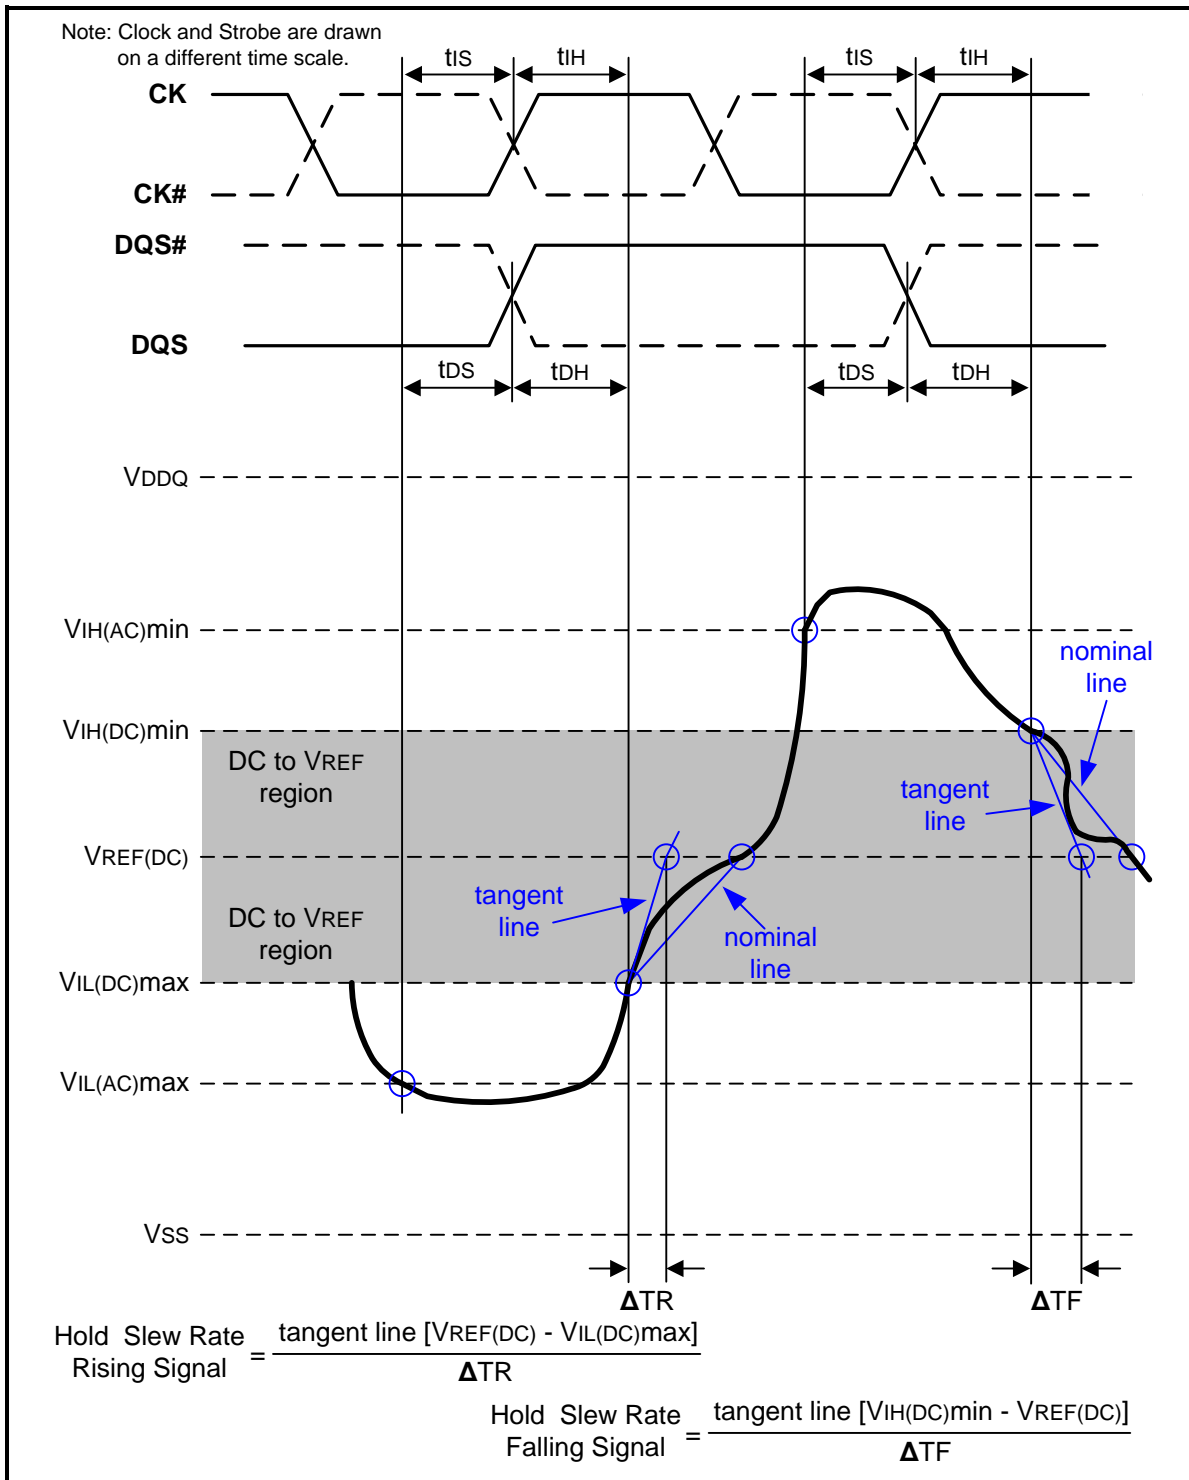

Figure 110 – Illustration of tangent line for hold time tDH (for DQ with respect to strobe) and tIH (for ADD/CMD with respect to clock)
Hold ( $t_{IH}$ ) nominal slew rate for a rising signal is defined as the slew rate between the last crossing of  $V_{IL}(\text{DC})_{\text{max}}$  and the first crossing of  $V_{REF}(\text{DC})$ . Hold ( $t_{IH}$ ) nominal slew rate for a falling signal is defined as the slew rate between the last crossing of  $V_{IH}(\text{DC})_{\text{min}}$  and the first crossing of  $V_{REF}(\text{DC})$ . If the actual signal is always later than the nominal slew rate line between shaded 'DC to VREF(DC) region', use nominal slew rate for derating value (see Figure 108). If the actual signal is earlier than the nominal slew rate line anywhere between shaded 'DC to VREF(DC) region', the slew rate of a tangent line to the actual signal from the DC level to  $V_{REF}(\text{DC})$  level is used for derating value (see Figure 110).
Hold (tDH) nominal slew rate for a rising signal is defined as the slew rate between the last crossing of VIL(DC)max and the first crossing of VREF(DC). Hold (tDH) nominal slew rate for a falling signal is defined as the slew rate between the last crossing of VIH(DC)min and the first crossing of VREF(DC) (see Figure 108). If the actual signal is always later than the nominal slew rate line between shaded 'DC level to VREF(DC) region', use nominal slew rate for derating value. If the actual signal is earlier than the nominal slew rate line anywhere between shaded 'DC to VREF(DC) region', the slew rate of a tangent line to the actual signal from the DC level to VREF(DC) level is used for derating value (see Figure 110).